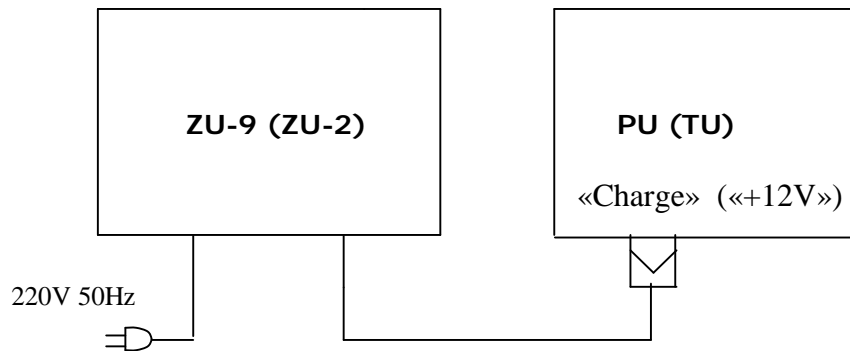

Fig. 10. Scheme of connecting the charging adapter ZU-9 (ZU-2).
3. Connect the charger ZU-9 (ZU-2) to PU (**БПРД**) (see Fig.10).